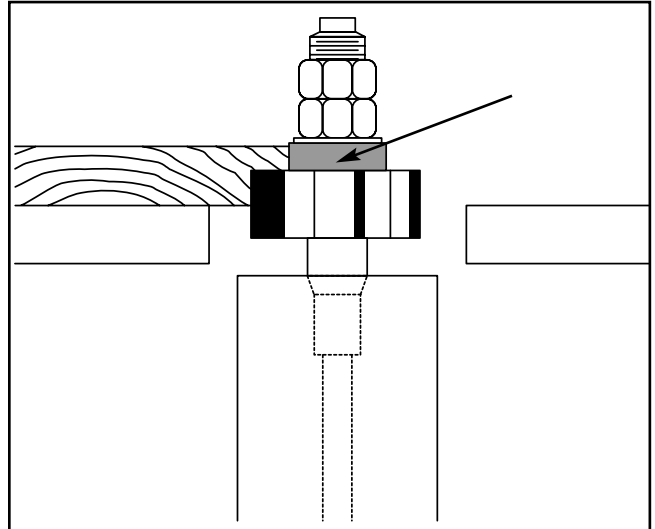

Figure 39. Rub collar installed above cutter.
2. **Above the cutter:** When the rub collar is used above the cutter as seen in **Figure 39**, the cut cannot be seen. This offers some advantage: the stock is not affected by slight variations in thickness and accidental lifting will not damage the workpiece. If lifting occurs, simply correct the mistake by repeating the operation.